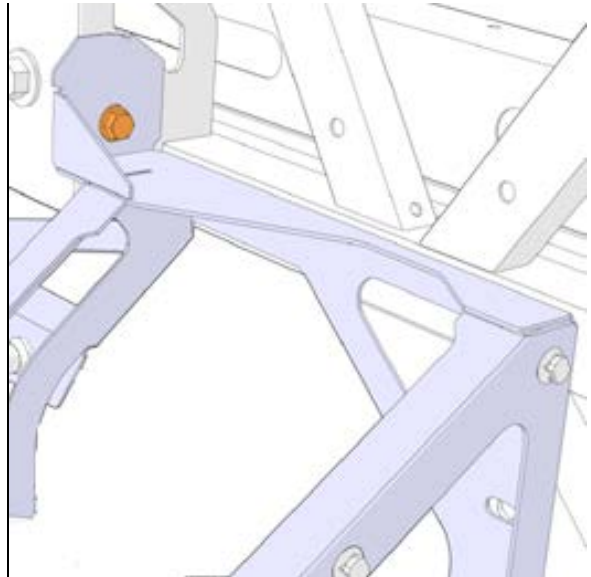

Figure 13
12. Remove the transversal screw at the top of the support (Figure 13).